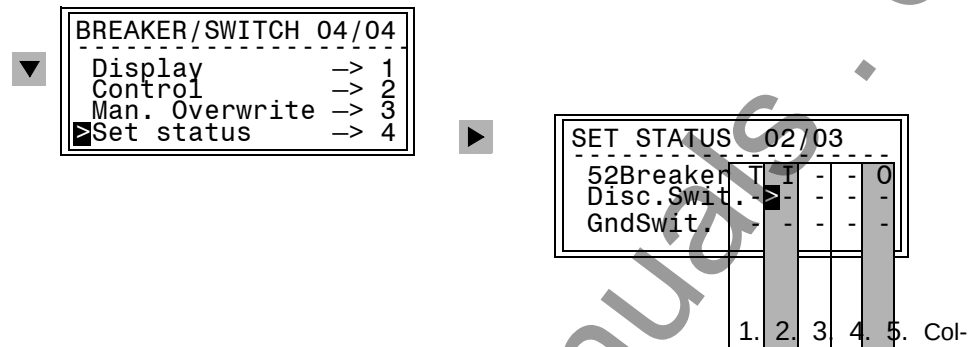

Figure 7-54 Set Status at the Front Panel (example)
Select the item **Set Status** with the  key and switch to the next option using the  key. **SET STATUS** appears, as shown in Figure 7-54.
The example in Figure 7-54 shows the position for the circuit breaker (52) was tagged (T) after the input ignore (I) was set, which means the message input was de-coupled from the system. The output block is active (O), so the command output is also de-coupled from the system. For the disconnect switch and the ground switch, no limitations are set.